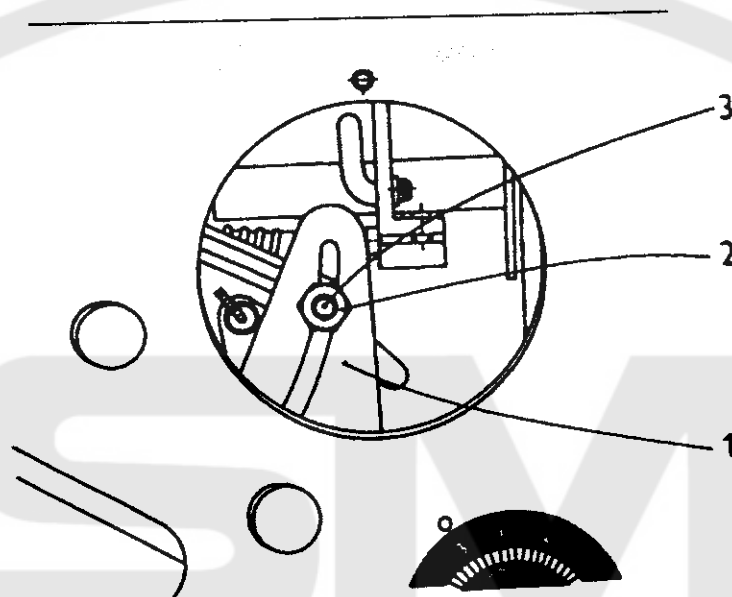

Fig. 7
(Fig. 7)
- 17. To adjust the lever and the roller of the zigzag stitch mechanism (Fig. 7, Tab. 13)**
The adjustment is to be carried out with the adjusting cam mounted. Remove the cover (12) tab. 13 of the zigzag stitch mechanism and turn the handwheel until the needle bar with the needle reaches its bottom position. Loosen the nut (2) on the screw (3) Fig. 7 on which is mounted the tie rod of the needle bar holder, displace the screw (3) in the slot of the lever between the two end positions and check whether the needle moves in the throat plate groove. In positive case, remove the plug (26) tab. 1. on the rear side of the machine arm, loosen the screw (6) tab. 13 on the lever (5), and adjust with a screwdriver the complete roller by its repeated turning and by displacing the screw (3) Fig. 7 turn the roller and displace the screw (3) in the lever groove until you find the position in which no displacement of the needle in the groove of the throat plate takes place, then retighten the screw (6) tab. 13, put in the plug (26) tab. 1, retighten the nut (2) Fig. 7 and mount the cover (12) tab. 13.